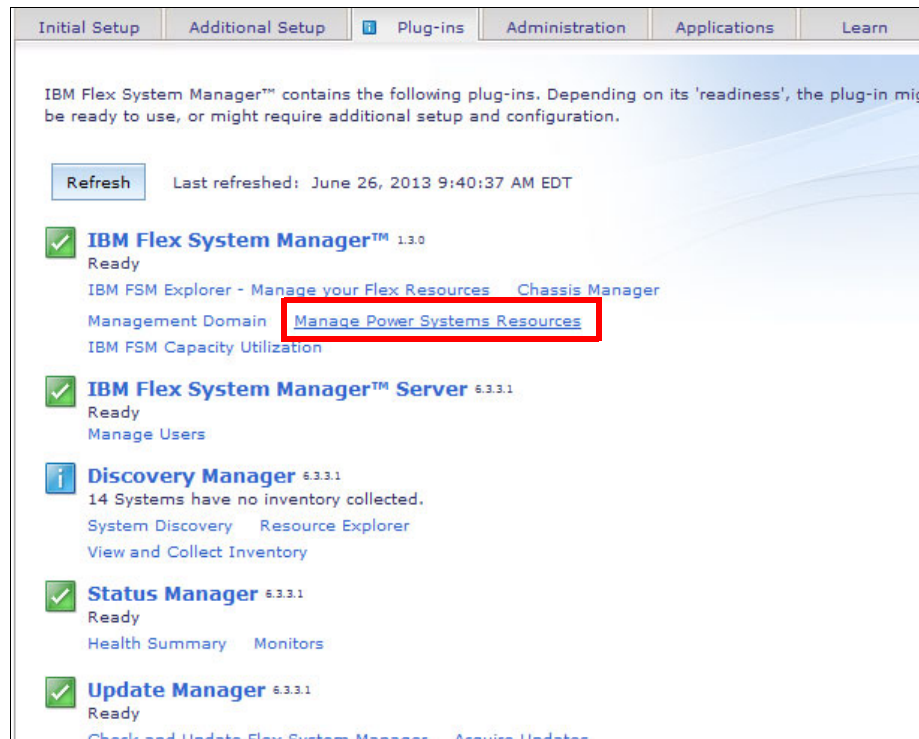

Figure 8-6 Highlighting the Manage Power Systems Resources plug-in
4. Click the **Plug-ins** tab to display the list of installed plug-ins. The list of installed plug-ins opens, as shown in Figure 8-6.